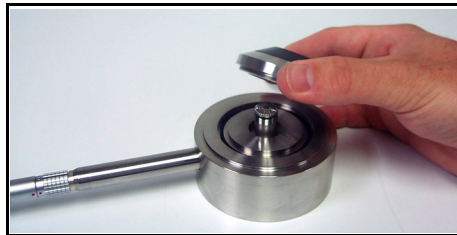

FIGURE 5-36 Coupler being installed on AEC201
- Step 3** Screw the coupler over the base (FIGURE 5-36).